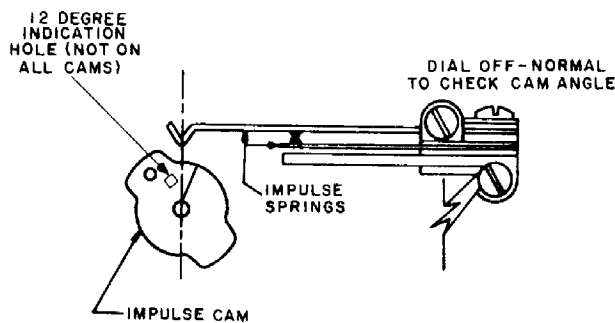

Figure 14. Position of Impulse Cam for Type A SATT Dial.
10.11 Type A SATT Impulse Cam. Set the impulse cam so that the scribed line on the cam is in line with the V-formed tip of the main impulse spring, with the fingerwheel held off-normal (Figure 14). On some cams, a locating mark of 12 degrees is provided for dial-adjusting operations.